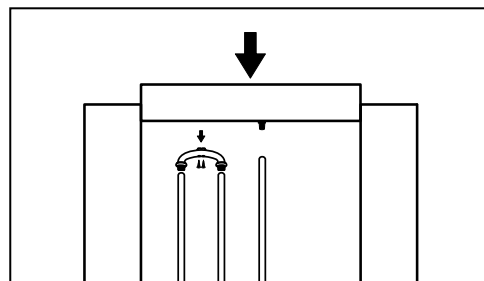

Figure 5
Step 6: Place the top rail over the balusters, making sure each baluster is seated properly on each connector. Attach Duo Connectors to the top rail using the screws provided. (Figure 5)